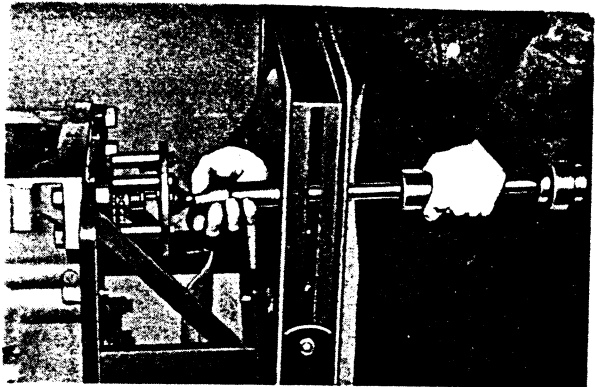

FIG. 41
2. Remove crankshaft timing sprocket and front engine plate with gasket. Removal of sprocket is facilitated by the use of service tool FTB7C as shown in Fig. 41.